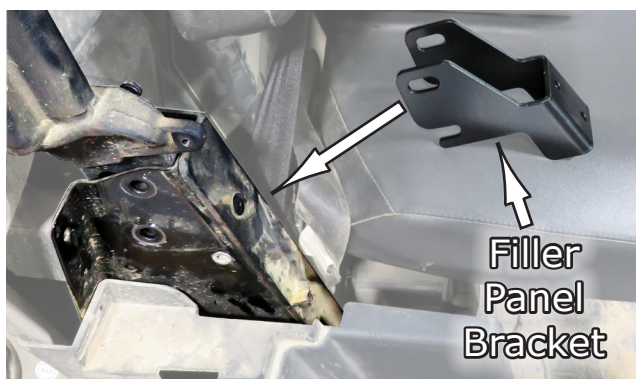
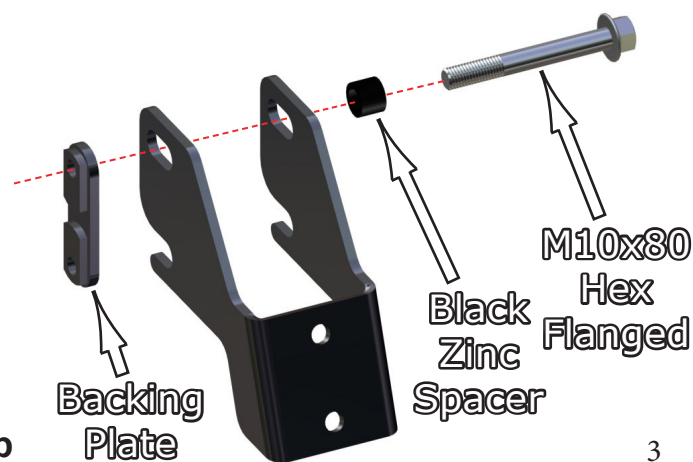

Fig.4a
Fig.4b
4.Now locate the **Right Filler Panel Bracket** in your kit. You will be installing it over the exposed area of the frame as shown in **Fig.4a**. Also find the small **Backing Plate**, **M10x80 Hex Flanged** bolt and the **Black Zinc Spacer** all provided in your kit. **Fig.4b** shows these components and also the order in which they will be installed.